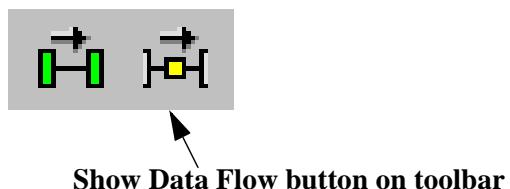

Figure 2-18. Show Data Flow
1. Click the **Show Data Flow** button on the center of the tool bar as shown in Figure 2-18. (Or you can click **Debug** ⇒ **Show Data Flow**.)